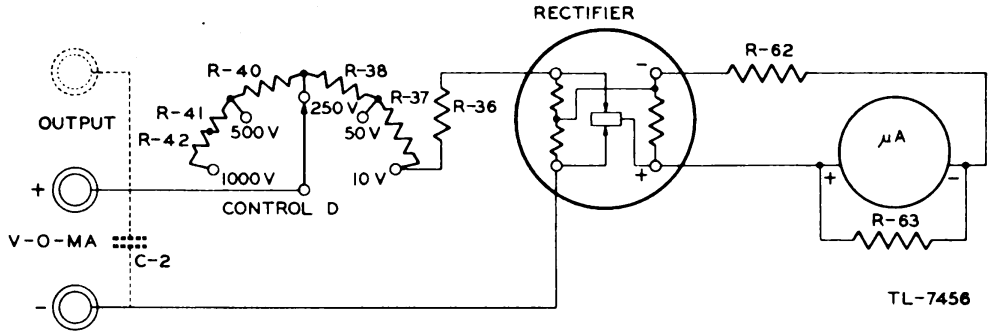

FIG. 15. MODEL 104 COMBINATION TESTER, SIMPLIFIED A-F AND A-C VOLTMETER CIRCUIT
b. *Combination Tester as A-C Voltmeter (fig. 15).* When Control D is set at any a-c voltage range the proper multiplier resistors are put in series with the rectifier. The type-H rectifier changes the alternating current to direct current so the d-c meter (M-3) can indicate the voltage applied to the rectifier through the multiplier resistors.
f. *Combination Tester as A-F Output Meter.* The various parts function the same as in the a-c voltage tests. However, for a-f voltage measurements, capacitor (C-2) is placed in series with the OUTPUT jack as shown by the dotted lines in figure 15.